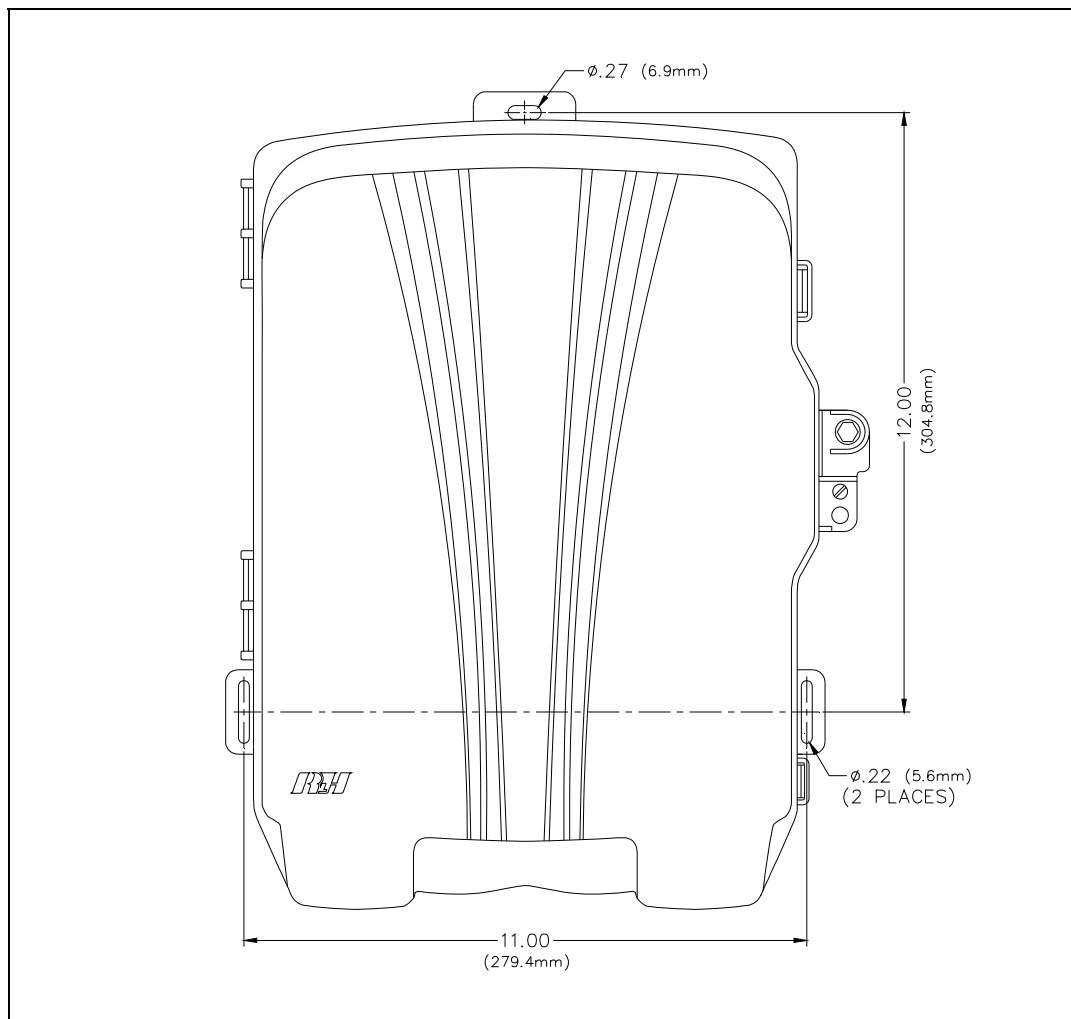

Figure 3. Outdoor Housing Mounting Details
1. Mount the outdoor dual card housing with the three screws provided (see Figure 3).